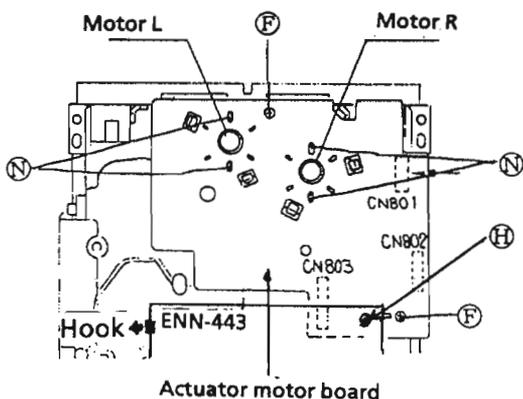

Fig. 2-13
1. Unsolder 4 soldered point (N) for both motors. (See Fig. 2-13.)
2. Remove a screw (H) securing the CD servo board. (See Fig. 2-13.)
4. Remove 2 screws (F) securing the actuator motor board. (See Fig. 2-13.)